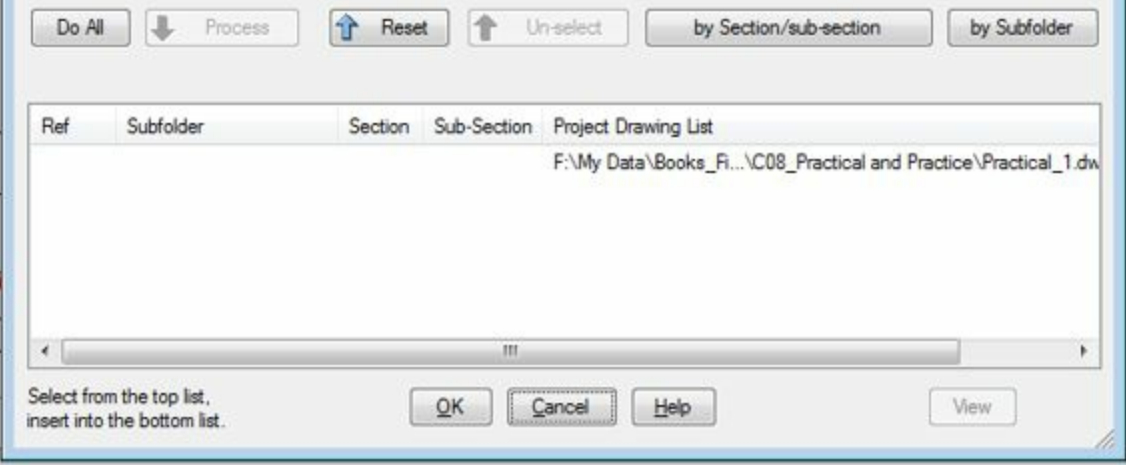

Figure-56. Drawing included for processing
- Select the **Practical 1** drawing from the list and click on the **Process** button. The drawing will be included in the schematic list; refer to Figure-56.